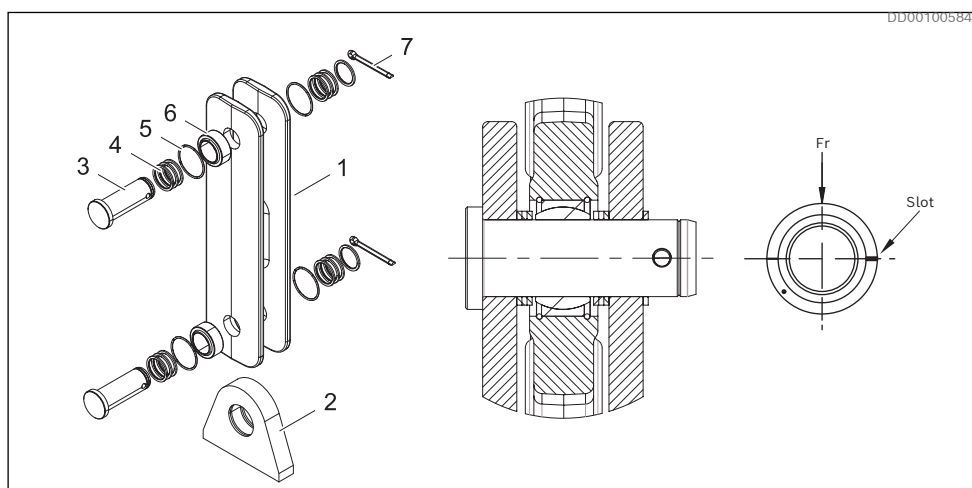

Fig. 22: Standard articulated connection TC A
2. The articulated connection and the spherical plain bearing must be dismounted during welding. See Fig. 22 and Fig. 23
1. The bearing (6) shall be mounted by using a mounting sleeve or tube applied on the bearing outer ring.
2. The bearing shall be mounted with the slot in the outer ring perpendicular towards the load direction. See Fig. 22 (also valid for Fig. 23)
3. Lock the bearings with the circlips (5)
4. Assemble the rest of the components according to Fig. 22 and Fig. 23
2. The bearing(6) shall be mounted with the slot in the outer ring perpendicular towards the load direction. See Fig. 22 (also valid for Fig. 24)
3. Lock the bearings (6) with the circlips (5)
4. Grease the sleeves (7) and axle (3) with grease available, preferably graphite grease. Do not grease the threads